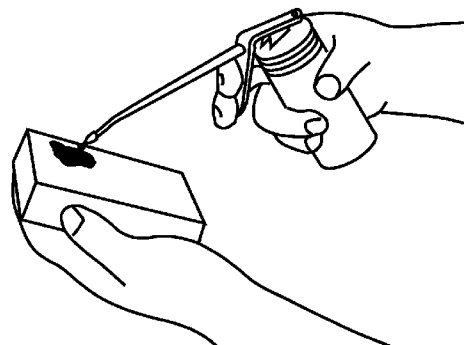

Figure 20
5. Apply one tablespoon of SAE 30W oil to the air filter (Fig. 20).